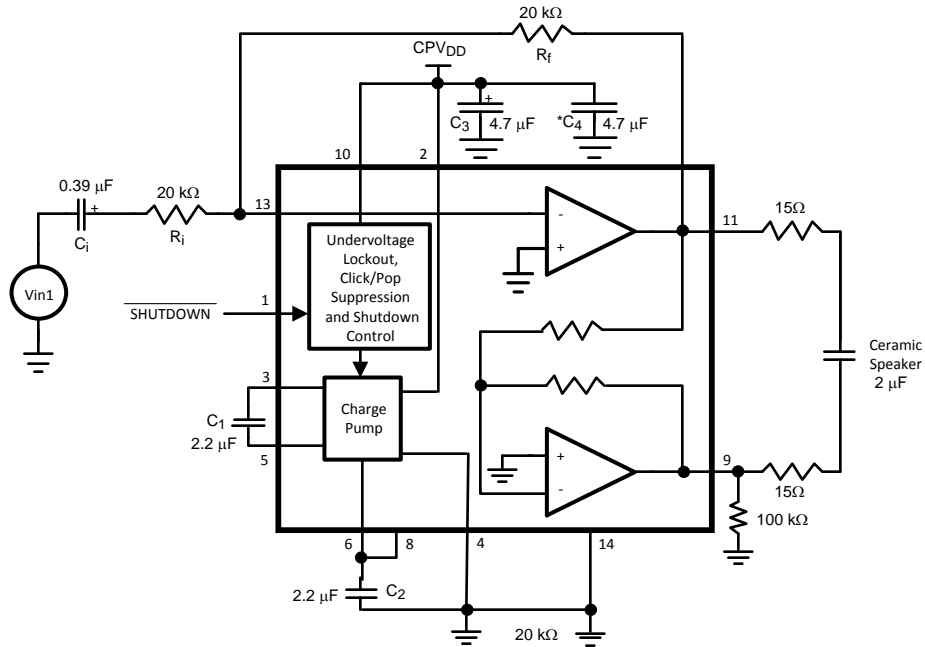

Figure 1. Typical Application Circuit
- The maximum power dissipation must be derated at elevated temperatures and is dictated by T_{JMAX}, θ_{JA}, and the ambient temperature, T_A. The maximum allowable power dissipation is P_{DMAX} = (T_{JMAX} - T_A)/θ_{JA} or the number given in Absolute Maximum Ratings, whichever is lower. For the LM4xxx typical application (shown in Figure 1) with V_{DD} = yyV, R_L = 2μF+30Ω mono BTL operation the total power dissipation is xxxW. θ_{JA} = 40°C/W.
The following specifications apply for $V_{DD} = 3.6V$, $A_{V-BTL} = 6dB$, $Z_L = 2\mu F + 30\Omega$ unless otherwise specified. Limits apply to $T_A = 25^\circ C$. See Figure 1.
The following specifications apply for $V_{DD} = 3.0V$, $A_{V-BTL} = 6dB$, $Z_L = 2\mu F + 30\Omega$ unless otherwise specified. Limits apply to $T_A = 25^\circ C$. See Figure 1.